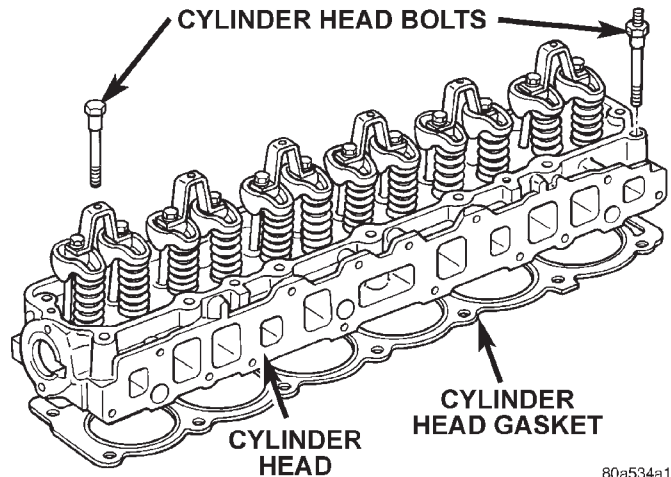

Fig. 36 Engine Cylinder Head Assembly
- (6) Remove the push rods . **Retain the push rods, bridges, pivots and rocker arms in the same order as removed.**
- (7) Loosen the accessory drive belt at the power steering pump, if equipped or at the idler pulley (refer to Group 7, Cooling System for the proper procedure).
- (8) If equipped with air conditioning, remove the air conditioning compressor, (refer to Group 24, Heating and Air Conditioning).
- (9) If equipped, disconnect the power steering pump bracket. Set the pump and bracket aside. **DO NOT** disconnect the hoses.
(10) Perform the Fuel System Pressure Release procedure (refer to Group 14, Fuel System).
(11) Remove the fuel supply line. Refer to Quick Connect Fittings in Group 14, Fuel Systems.
(12) Remove the intake and engine exhaust manifolds from the engine cylinder head (refer to Group 11, Exhaust System and Intake Manifold for the proper procedures).
(13) Disconnect the ignition wires and remove the spark plugs.
(14) Disconnect the temperature sending unit wire connector.
(15) Remove the ignition coil and bracket assembly.
(16) Remove the engine cylinder head bolts. Bolt No.14 cannot be removed until the head is moved forward (Fig. 36). Pull bolt No.14 out as far as it will go and then suspend the bolt in this position (tape around the bolt).
(17) Remove the engine cylinder head and gasket (Fig. 36).
(18) If this was the first time the bolts were removed, put a paint dab on the top of the bolt. If the bolts have a paint dab on the top of the bolt or it isn't known if they were used before, discard the bolts.
(19) Stuff clean lint free shop towels into the cylinder bores.